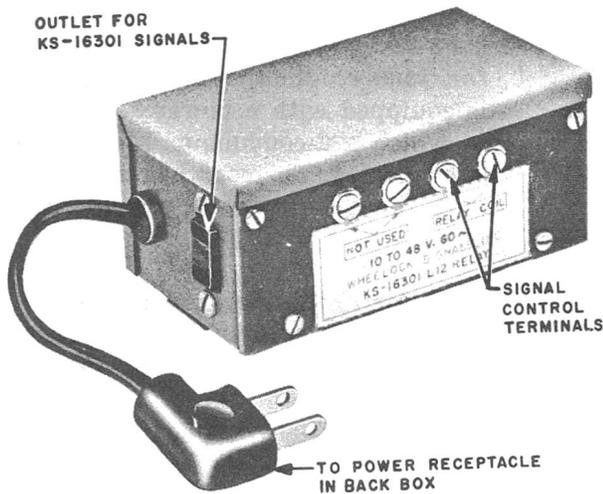

Fig. 10 - KS-16301, List 12 Relay
**3.09 List 12 Relay**, shown in Fig. 10, is designed to operate on 9 to 48 volts 60 cycles ac.